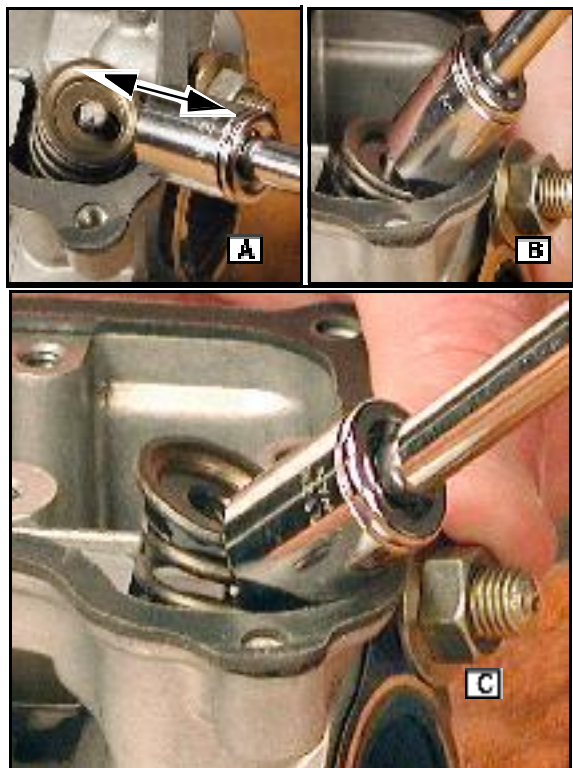

Fig. 9
3. With a small socket mounted on a drive handle, push the valve retainer down from the direction of the open slot as shown in ([A] Fig. 9).
4. Follow the sequence shown ([B & C] Fig.9).